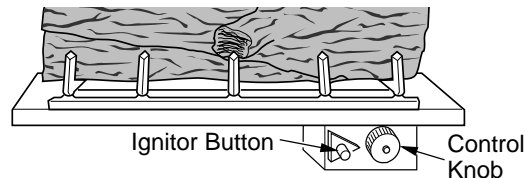

Figure 28 - Control Knob and Ignitor Button Location
3. Turn control knob clockwise  to the OFF position (see Figure 28).
4. Wait five (5) minutes to clear out any gas. Then smell for gas, including near the floor. If you smell gas, STOP! Follow "B" in the safety information, page 14 column 2. If you don't smell gas, go to the next step.
5. Turn control knob counterclockwise  to the PILOT position. Press in control knob for five (5) seconds (see Figure 28).